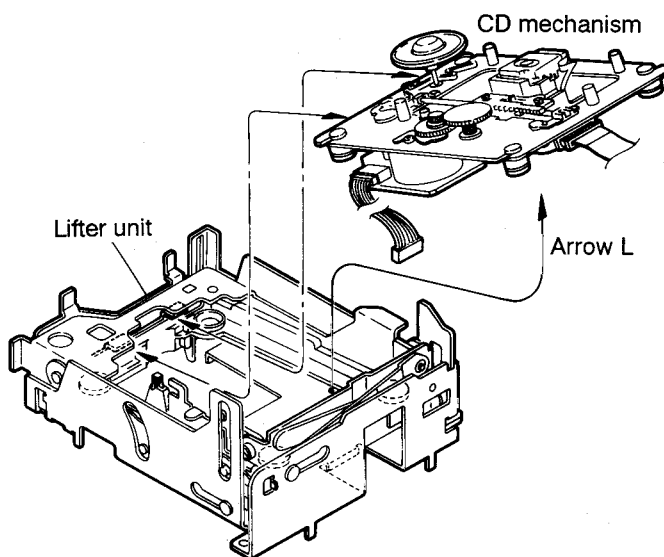

Fig. 5-27
2. By raising the CD mechanism assembly in the arrow direction (M), remove the assembly from the lifter unit (Fig. 5-27).